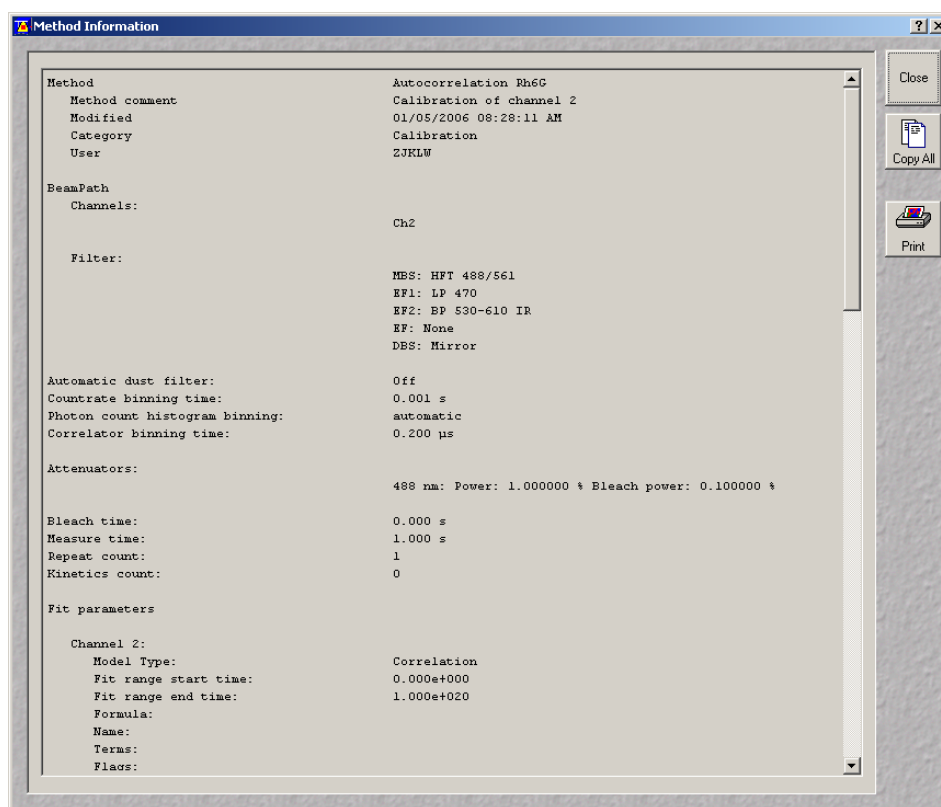

Fig. 4-10 Method Information window
- After a click on the **Info** button the **Method Information** window will pop up which shows a detailed description of the analysis method (see Fig. 4-10).